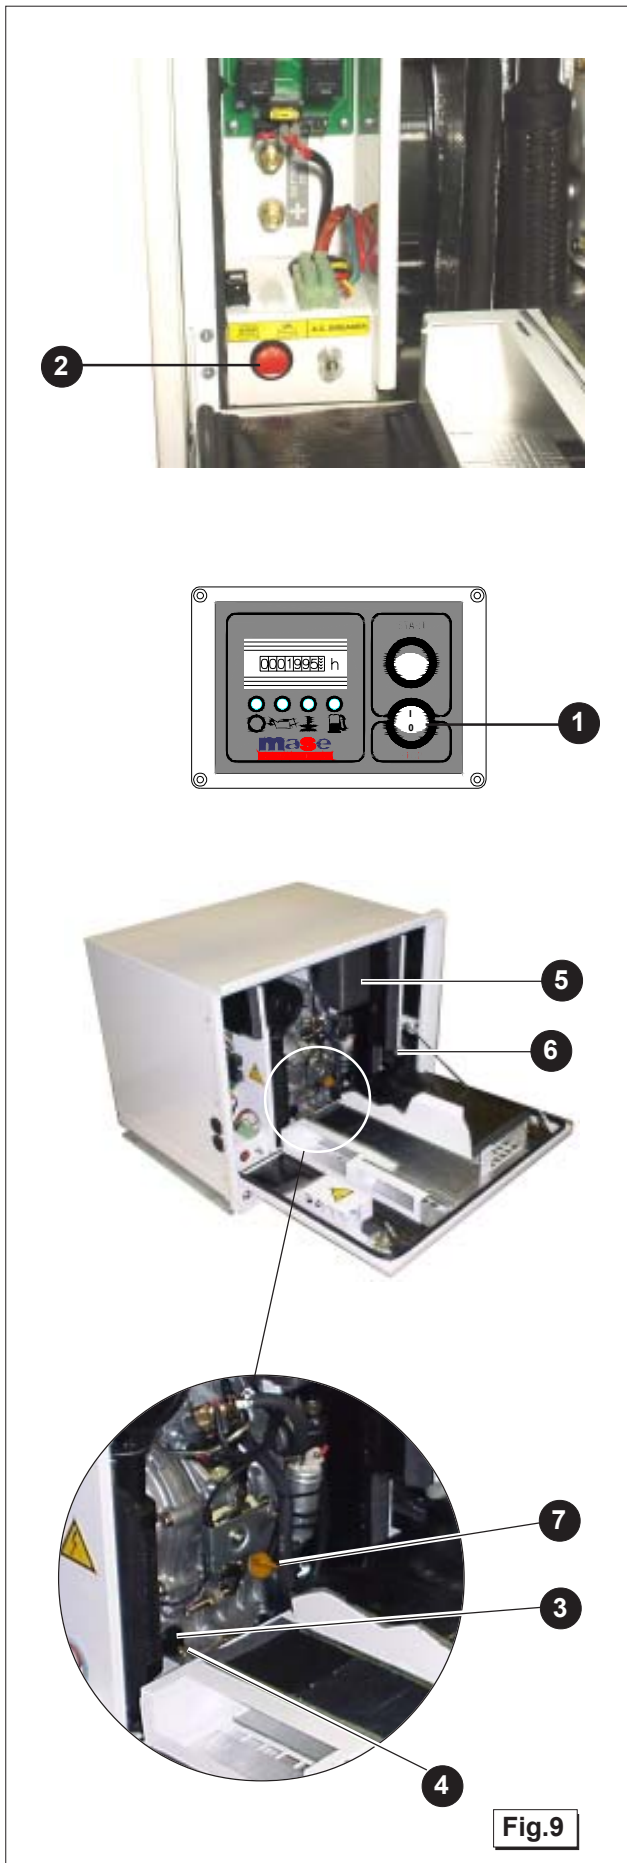

Fig.9
*Before opening the engine compartment door, switch off the generator from the remote control panel positioning the switch (Fig.9 Ref.1) on 0.
Before any type of maintenance operation, deactivate the starting panel onboard the machine positioning the switch (Fig.9 Ref.2) on STOP.*
- *Check the oil level with the cap/dipstick. (Fig. 9 Ref.7). The oil level must always be between the MAX and MIN notches on the dipstick.*
Top-up and fill through the hole indicated in Fig. 9 Ref.7. For detailed information in this connection, consult the engine use and maintenance manual which accompanies the machine.
For proper functioning and a long life of the engine it is important to periodically clean and replace the air filter. An inefficient filter may cause loss of engine power and excessive smoke at the exhaust. To replace the air filter (Fig. 9 Ref. 5), carry out the following operations:
For the engine to deliver full power the filter must be clean. Replace the fuel filter (Fig.9 Ref.6) every 400 hours of operation (or every 6 months).